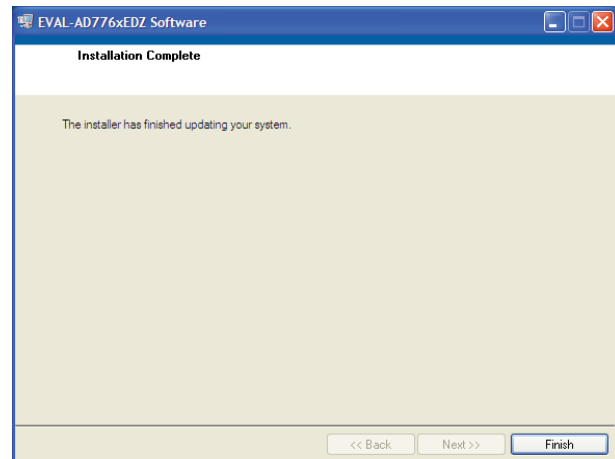

Figure 7. Install Completed
6. When the installation completes, the window as shown in Figure 7 displays. Restart the PC for the software to take full effect.